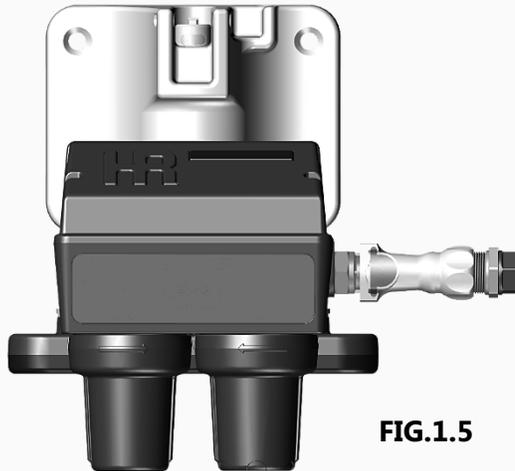

**FIG.1.4**
Securing the Hydra Rinse Pro-control Module on a 150-XX, 161-XX, (C) 161-XX, 152-XX, (C) 152-XX, 162-XX, and 168-XX Taylor Models: The Center Draw Valve Handle will be repurposed to secure the Hydra Rinse® Pro-control module to the soft serve machine as illustrated **FIG 1.4**.